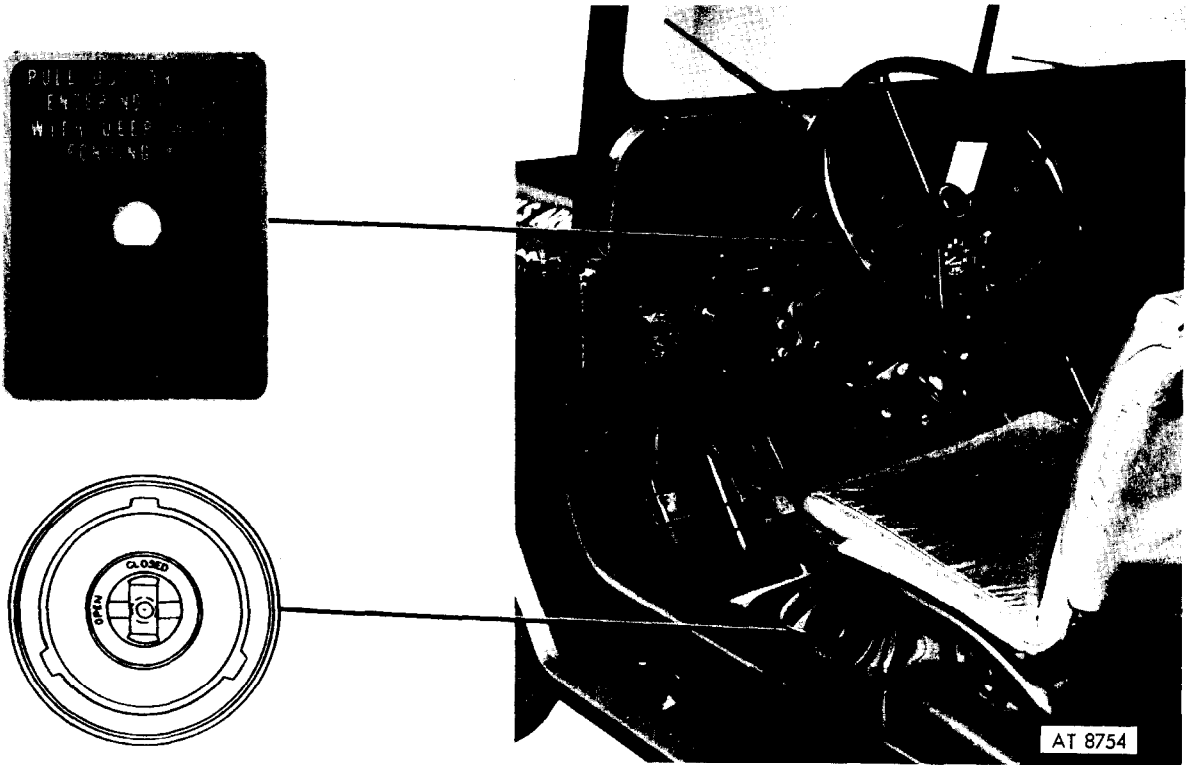
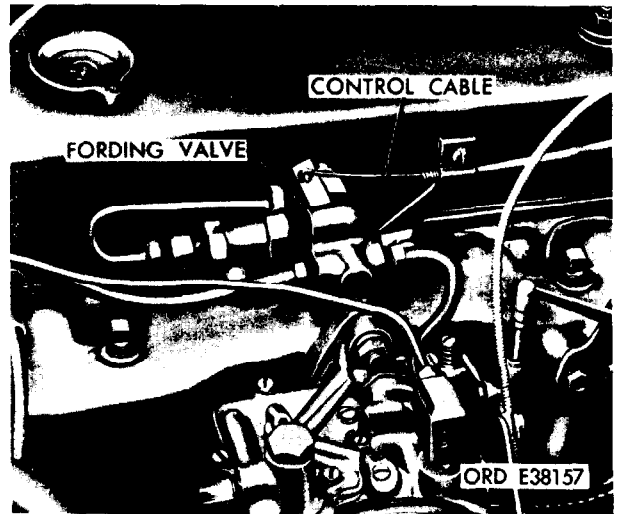
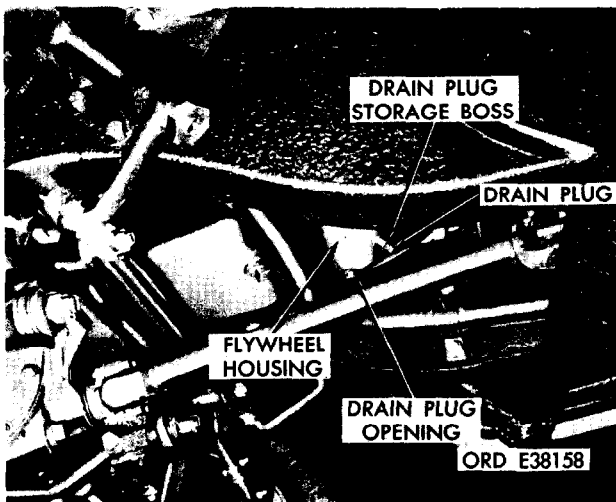

Figure 4-21. Instruction plates for deepwater fording kit.
Figure 4-22. Fording valve and cable.
Figure 4-23. Flywheel housing drain plug.
*b. Name, Caution, and Instruction Plates.* Location and details of the plates are shown in figure 4-21.
*a. Fording Valve.* (Refer to fig. 4-22.) A control handle and instruction plate for the fording valve are located on the instrument panel near the choke and throttle controls (fig. 4-21). When the control is pulled out as directed, the engine, brake, hydraulic and fuel venting systems are connected through the
b. *Fuel Filler Cap Valve.* A fording setting is provided in the fuel tank cap (fig. 4-21) which is set to closed position before fording. Instructions for use of this valve are embossed on the fuel tank filler cap. The valve is set by turning the lever inside the cap to the positions marked "OPEN" or "CLOSED".
- (1) Pull out fording valve control. (Open floor drains on older models.)
- (2) Set fuel tank filler cap to the closed position for fording.
- (3) Secure floatable objects to vehicle.
- (4) Remove drain plug from storage boss and install in flywheel housing cover drain opening (fig. 4-23).
- (1) Push fording valve control in to restore normal ventilating.
- (2) Set fuel tank filler cap valve to "OPEN".
- (3) Close floor drain valves. (Floor drains are open on later model vehicles.)
- (4) Drag brakes to dry out shoes.
- (5) Remove drain plug from flywheel housing cover drain opening and stow in flywheel housing storage boss (fig 4-23) or in the driver's seat map compartment.